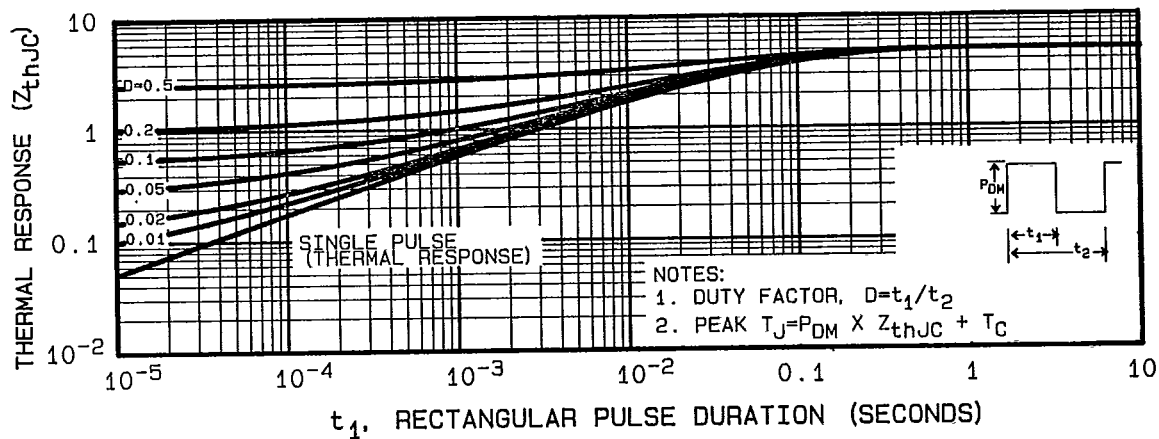

Fig. 5 - Maximum Effective Transient Thermal Impedance, Junction-to-Case Vs. Pulse Duration
- ① Repetitive Rating; Pulse width limited by maximum junction temperature (see figure 5)
- ② @ $V_{DD} = 25\text{V}$, Starting $T_J = 25^\circ\text{C}$, $L = 100\mu\text{H}$, $R_G = 25\Omega$, single pulse.
- ③ $I_{SD} \leq 8.2\text{A}$, $dI/dt \leq 130\text{A}/\mu\text{s}$, $V_{DD} \leq 40\text{V}$, $T_J \leq 150^\circ\text{C}$, Suggested $R_G = 24\Omega$
- ④ Pulse width $\leq 300\mu\text{s}$; Duty Cycle $\leq 2\%$
- ⑤ $\text{K/W} = ^\circ\text{C/W}$, $\text{W/K} = \text{W}/^\circ\text{C}$
- ⑥ Mounting pad must cover heatsink surface area. See case style drawing on front page.